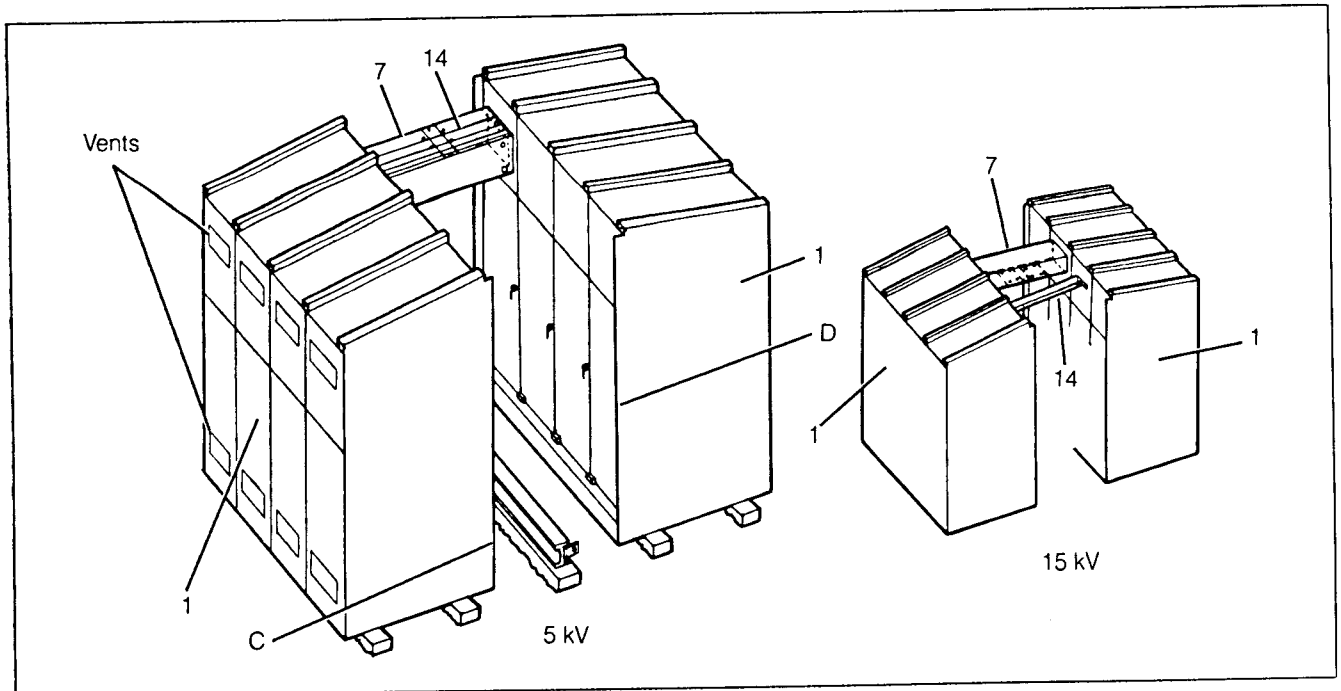

Figure 32. Bus Run Installation — Common Aisle Layout
4. Assemble and connect bus run (7). (See Figure 32.)